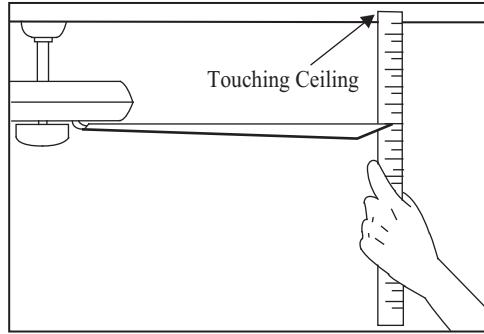

Figure 15
2. Most fan wobble problems are caused when blade levels are unequal. Check this level by selecting a point on the ceiling above the tip of one of the blades. Measure from a point on the center of each blade to the point on the ceiling. Measure this distance as shown in Figure 15. Rotate the fan until the next blade is positioned for measurement. Repeat for each blade. Measurements deviation should be within $1/8''$. Run the fan for 10 Minutes.